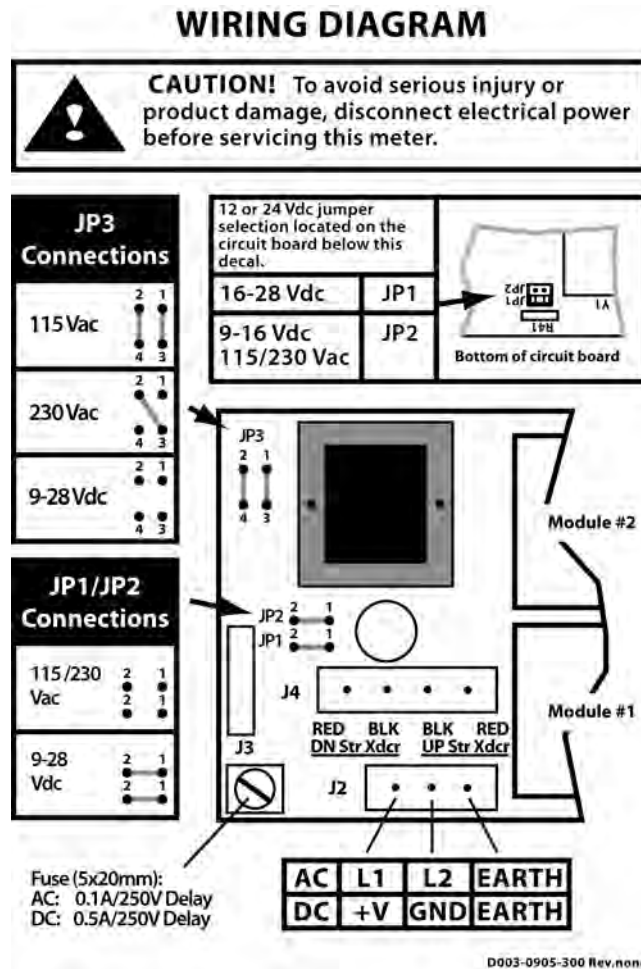
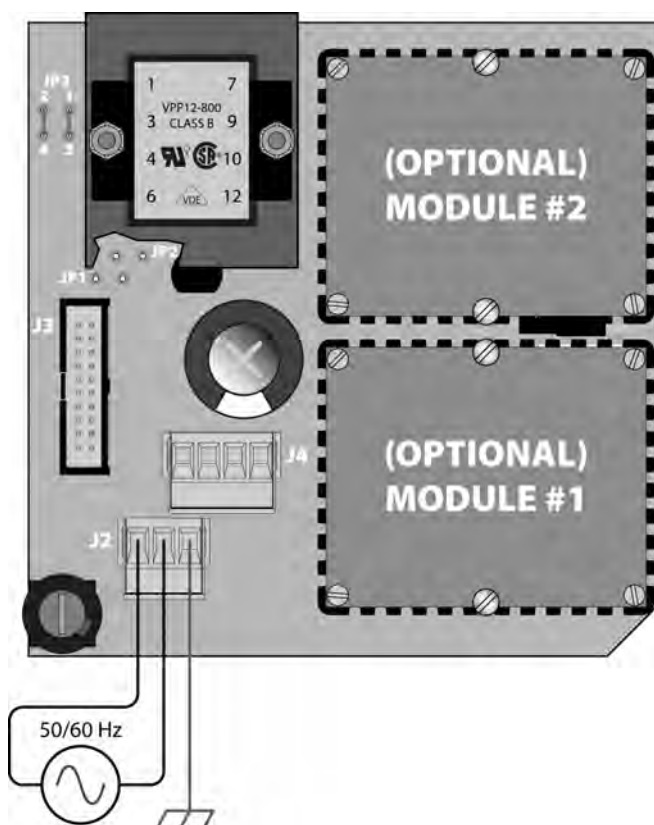

Figure 1.3
Figure 1.4
2. The terminals within the TFX are a pluggable type – they can be removed, wired and then plugged back in. Connect the appropriate wires to J4 at the corresponding screw terminals in the transmitter. Observe UP/DN Str Xdcr orientation. See **Figure 1.3** on page 1.12 and **Figure 1.4** on page 1.13 or the wiring diagram located on the inner door of the transmitter.
Connect power to the screw terminal block marked J2 in the TFX transmitter. See **Figure 1.3** and **Figure 1.4**. Utilize the conduit hole on the left side of the enclosure for this purpose. Use wiring practices that conform to local and national codes (e.g., The National Electric Code Handbook in the U.S.)
2. Connect L1, L2 and earth to the terminals referenced in **Figure 1.3** on page 1.12. Phase and neutral connections to L1 and L2 are not polarized. Do not operate without an earth ground connection.
3. See **Figure 1.4** for AC connection schematic. Wire gauges up to 14 AWG can be accommodated in the TFX terminal blocks.
1. Verify that the jumpers are properly placed. See the wiring diagram located on the inside door of the TFX enclosure or see **Figure 1.3** on page 1.12. The jumpers at JP3 should not be present and the jumpers at JP1 and JP2 will be in place. The jumper located beneath the microprocessor protection shield – the panel with the wiring diagram label mounted on it – should be positioned at JP2 for 9-16 Vdc input power and in JP1 position for 16-28 Vdc input power.